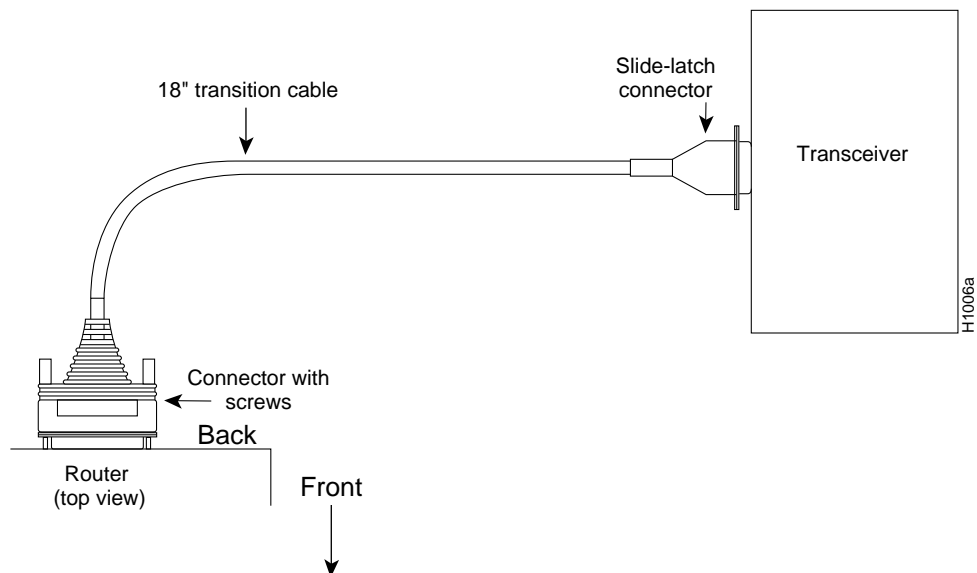

Figure 2-4 Router Transition Cable Connections
- The transition cable can be used by itself to connect the router directly to the media attachment unit (MAU) or transceiver. (See Figure 2-4.)